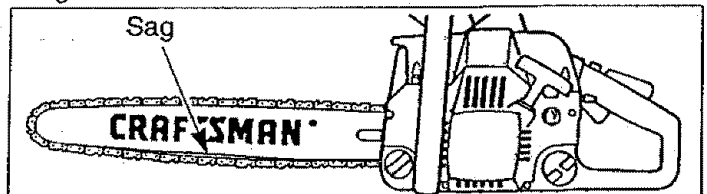

Figure 19
### CHAIN TENSION (Fig. 19 & 20)
- If chain is too loose, it will sag below the guide bar. Figure 19.